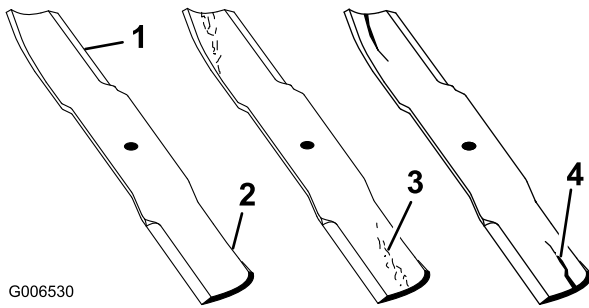

Figure 52
1. Inspect the cutting edges (Figure 52).
2. Inspect the blades, especially the curved area (Figure 52).
Note: If you notice any damage, wear, or a slot forming in this area (items 3 and 4 in Figure 52), immediately install a new blade.